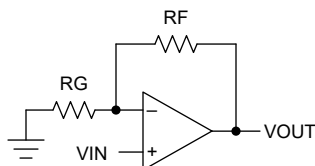
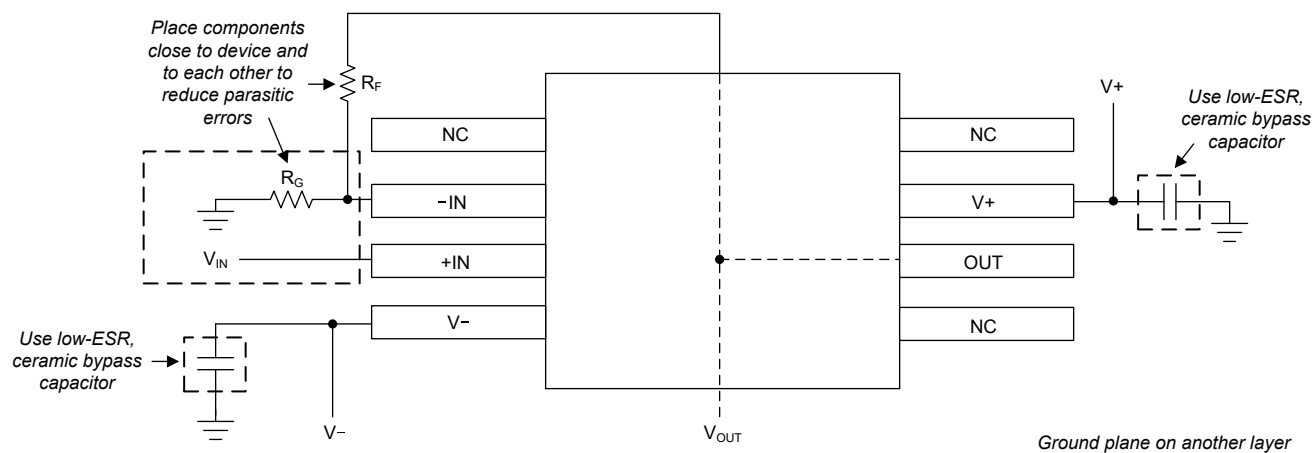

图 7-9. OPA627 Layout Example for the Noninverting Configuration (Schematic Representation)
图 7-10. OPA627 Layout Example for the Noninverting Configuration
- Place the external components as close to the device as possible. As shown in 图 7-10, keeping RF and RG close to the inverting input minimizes parasitic capacitance.
- Updated Figure 45, and moved to Figure 7-9 and Figure 7-10 33